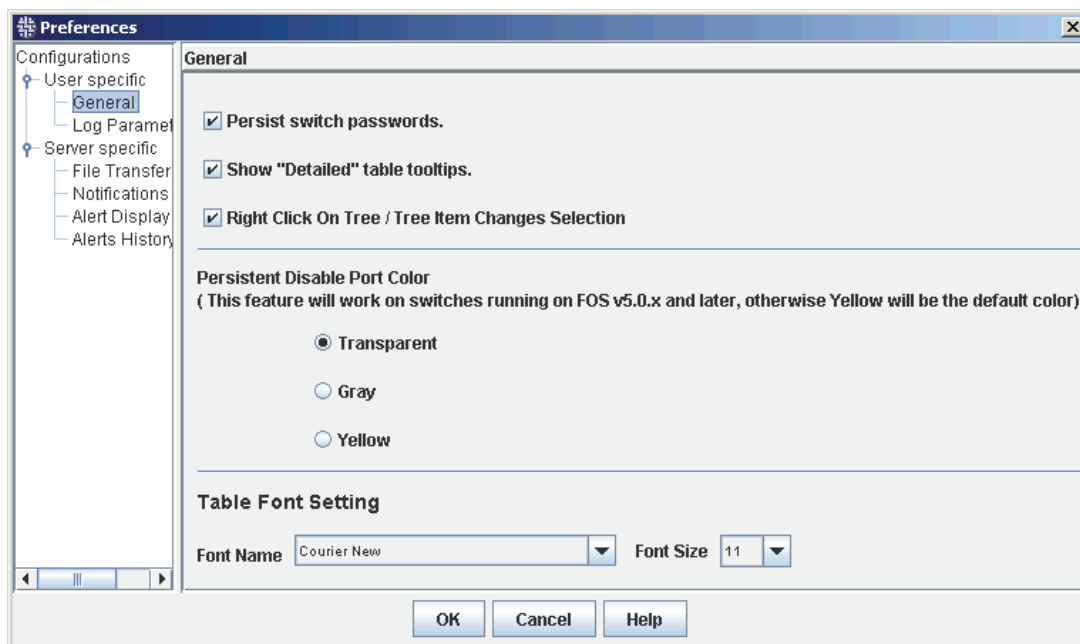

Figure 3-22 General Preferences
2. Expand **User Specific** and select **General** (see Figure 3-22 on page 3-20).
2. Expand **User Specific** and click **General** (see Figure 3-22).